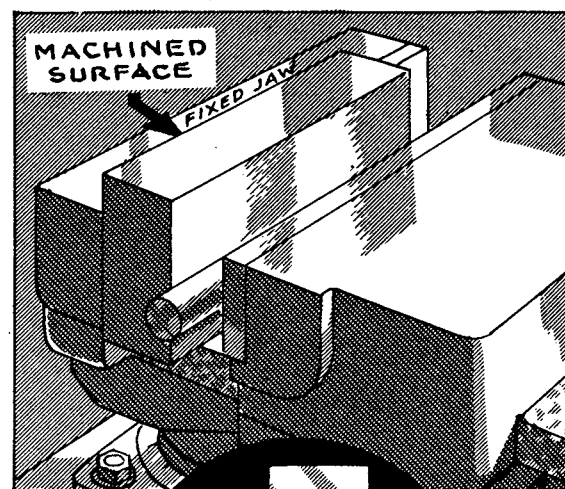

FIG. 284
3. Place a round piece of steel horizontally between the movable vise jaw and the work as shown in Fig. 284; then draw the vise up tightly.